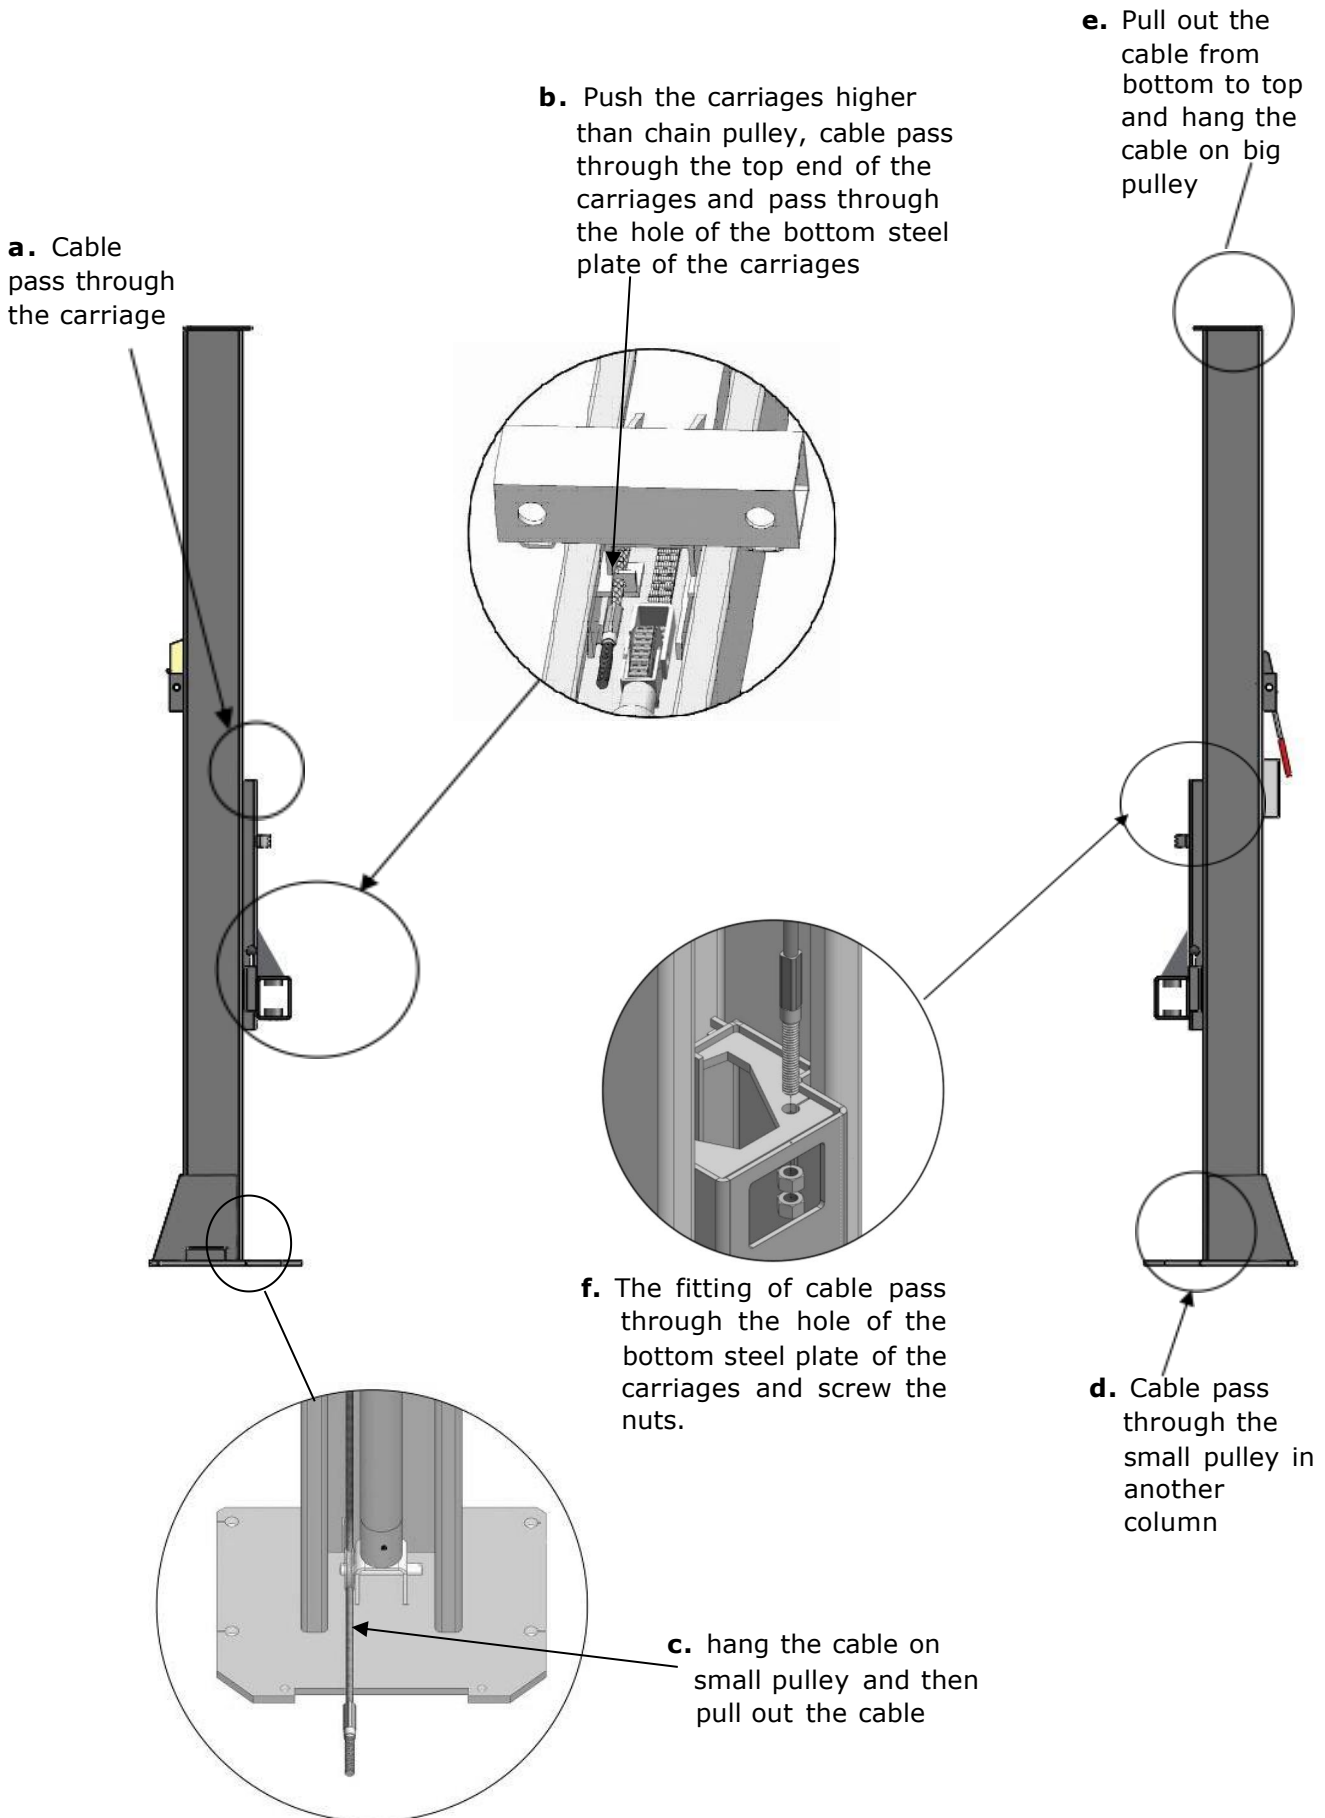

Fig. 18
1. Connect the cables follow step **a** to **f**. (See Fig. 18).